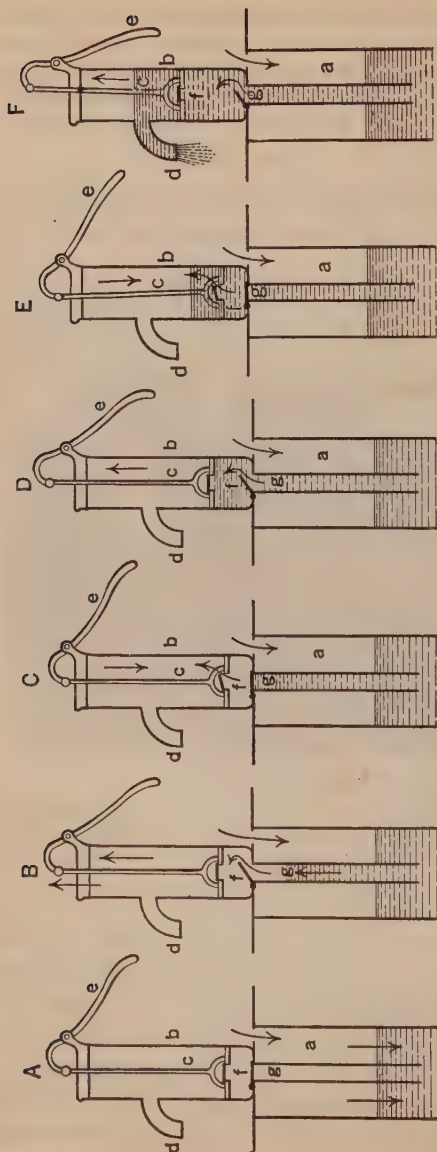

FIGURE 32.—STEPS IN THE ACTION OF A LIFT PUMP.
55. Measuring Atmospheric Pressure. — In 1640 the Duke of Tuscany dug a deep well and fitted it with a pump, but he could not make the water come up the pump barrel (Fig. 32) more than 34 feet, though he knew that he had a vacuum in the barrel of his pump and that Nature always tries to fill a vacuum. Why would
our environment help us. In Egypt the treadmill and well sweep are still in use (Fig. 31). Where wells are in common use, as in the country, pumps are a necessity. Water seldom comes from a pump upon the first stroke of the handle. This is because there is no water in the pump barrel. A careful study of the accompanying diagrams (Fig. 32) will give the information needed to understand how a pump works.
Study the cistern pump in your kitchen (if you have one) or the pump in your yard and compare it with the one in Figure 32. If you have a chain pump how does it differ from this? Is the principle the same? Explain. (Key Picture 4.)
Explain how atmospheric pressure is used in this pump (see Fig. 32). How and where is compressed air used here? When and why do the two valves work?